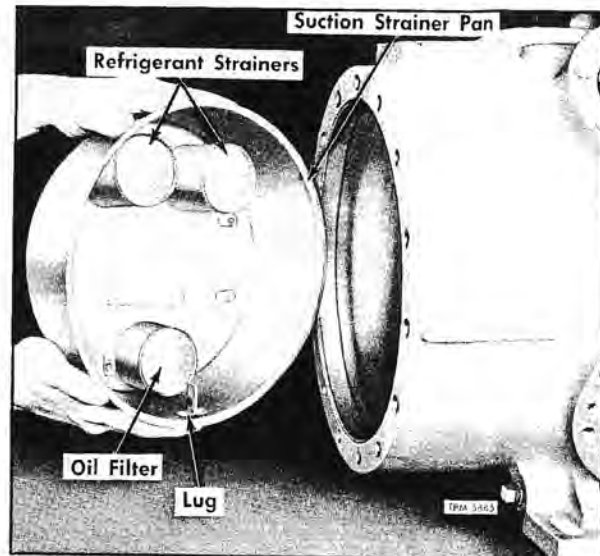

Figure 79—Installing Suction Strainer Pan
1. If suction strainer screens (28) or oil filter assembly (72) were removed from the strainer pan, attach these units to pan firmly with screws and lock washers. Units are located on pan as shown in figure 79.
3. Lubricate cover gasket (26) with clean compressor oil, then position gasket to cover.
4. Place two attaching bolts (25) with flat washers into suction cover (one at top and one at bottom), then install cover to compressor. Make sure name on cover is positioned properly. Tighten two bolts finger-tight, then install remaining attaching bolts and washers. Tighten all bolts evenly to 58 foot-pounds torque.